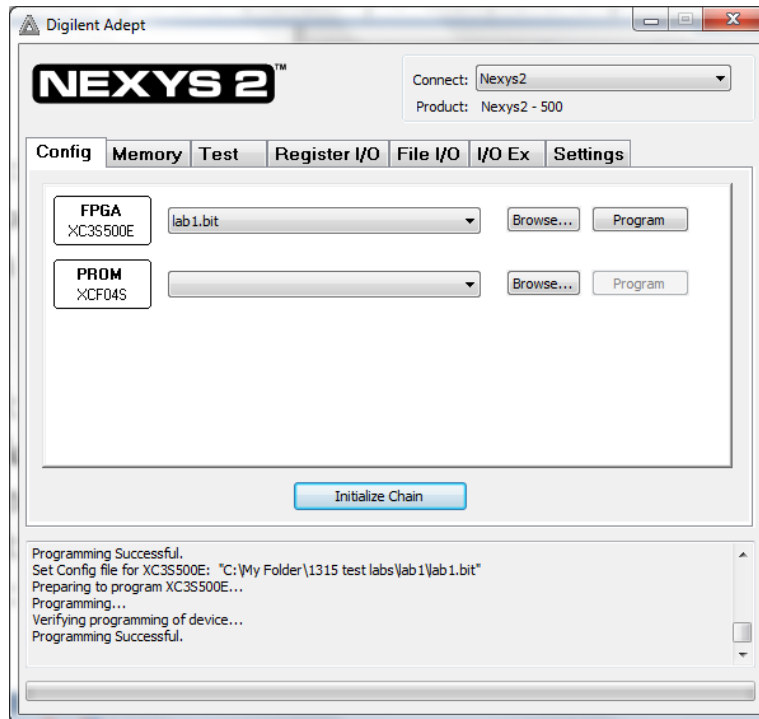

Figure 7: Adept window
Step 14: Make sure that the Nexsys-2 board is turned ON. Double click on the Adept icon on the desktop. It should show the window seen in figure 7. Note that Adept automatically recognizes the board. If an error is received, check you connections and click **Initialize Chain** to attempt to re-connect to the board.